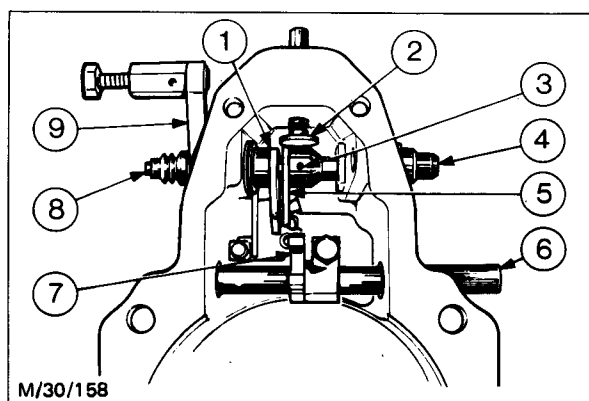

Fig. 47 - Stop Control and Excess Fuel Lever Assembly (Dorset)
39. Slacken the external stop control lever pinch bolt and remove the lever. Remove the circlip, flat washer and any shims from the shaft (Fig. 47).